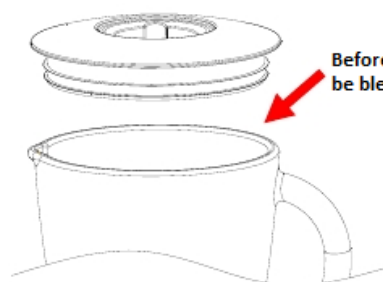

Fig. 7
2. Place the food to be blended into the jar (See Fig.7). Usually, certain amount of purified water has to be added to facilitate the smooth running of appliance. The proportion of the food and water is 2:3. The amount of mixture should not exceed the max level as indicated on the jar.